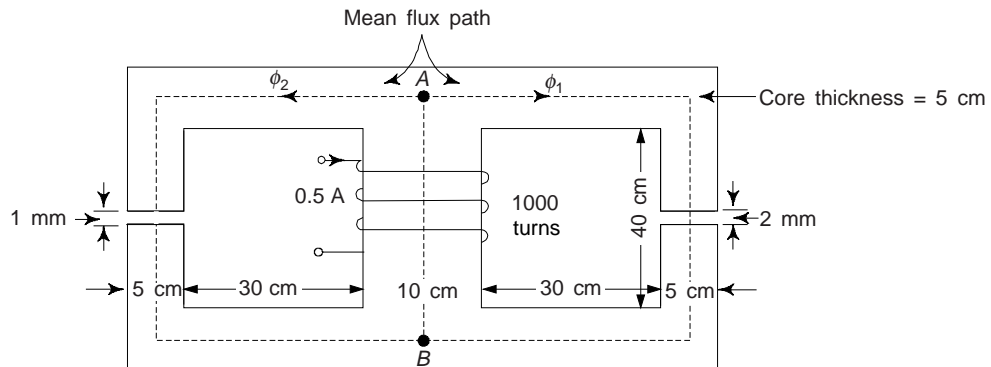

Fig. P2.2
2.2 For the magnetic circuit of Fig. P2.2, find the flux density and flux in each of the outer limbs and the central limbs. Assume μ_r for iron of the core to be (a) ∞ (b) 4500.
- (a) $\mu_r = \infty$. The corresponding electrical analog of magnetic circuit is shown in Fig. P2.2(a).